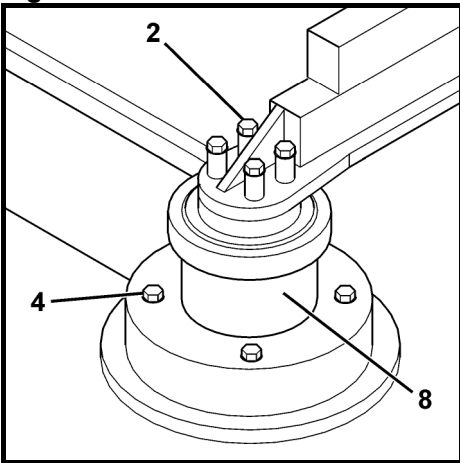
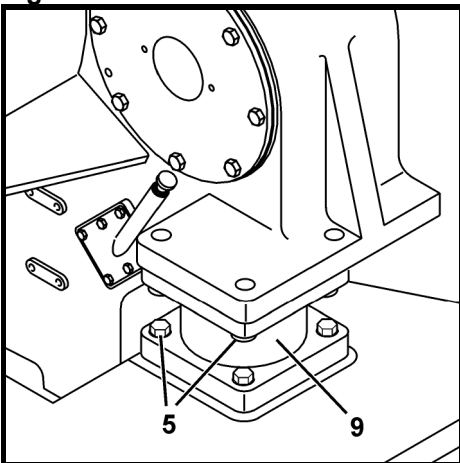

Fig. 9
Fig. 10
Check the mounting screws 2 on the engine brackets (Fig. 9) and the engine or gear mounts (Fig. 9, pos.4 or Fig. 10, pos. 5) regularly for tightness, retorque if necessary.
The four rubber cushions 8 at front face of engine (Fig. 9) and the two buffers 9 at the splitterbox side (Fig. 10) must be checked and replaced at regular intervals.